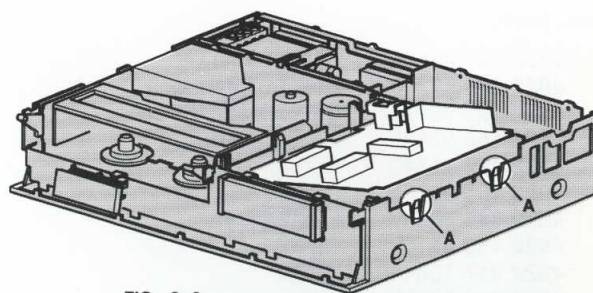

FIG. 2-9
- Unlock snap construction A (see Fig. 2-9).